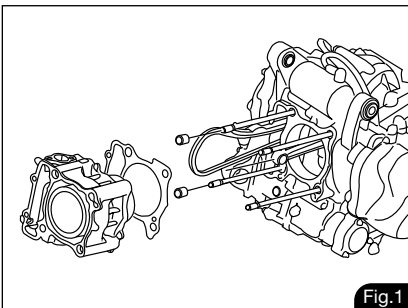

Fig.1
1. Remove the cylinder head and cylinder block from the engine. (Fig. 1)